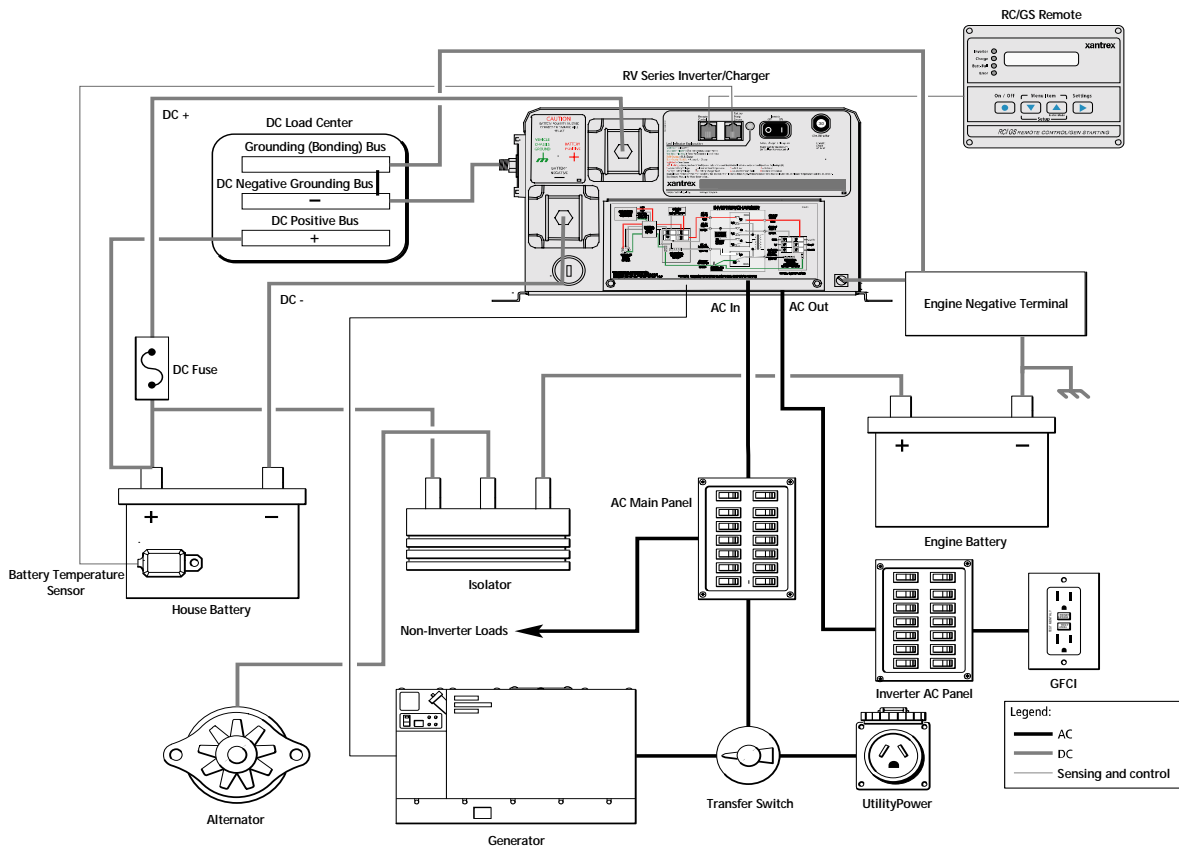

Figure 2-1 RV Electrical System Diagram
- Desktop (as shown in Figure 2-1)
For a successful installation, you need to plan the AC and DC wiring, as well as the remote control and generator connections. These connections are described in this section and illustrated in Figure 2-1.
**Important:** Figure 2-1 does not show all required grounding or over-current protection.